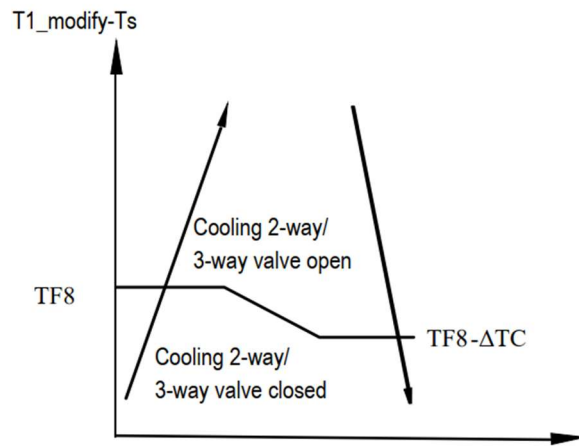
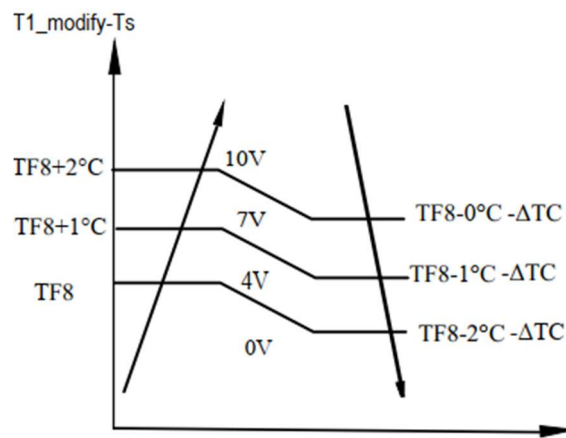
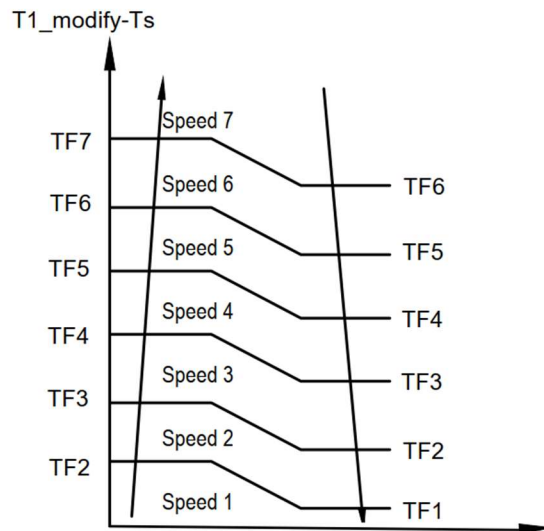

Figure 4.2 2-way valve or 3-way valve adjustment in cooling mode
Figure 4.3 2-way valve or 3-way valve 0-10V control adjustment in cooling mode
Figure 4.4 Air supply mode auto fan speed judgment diagram in cooling mode
In cooling mode, the 2-way valve or 3-way valve for both heating is closed, the 3-way valve or 2-way valve for cooling is controlled as shown in Figure 4.2. If a 0-10V output control valve is used, it is controlled as shown in Figure 4.3. In Figure 4.3, 0V output indicates the valve is fully closed, 10V output indicates the valve is fully open, and other values represent different degrees of opening. (Please remind the customer that the actuator action of the selected valve must be consistent with our functional logic. If not, customization is required.) If the fan speed is set to auto, the fan speed will be determined according to Figure 4.4.
1. In Figure 4.2- Figure 4.4, the temperature points from bottom to top have "≥", while from top to bottom have "<".